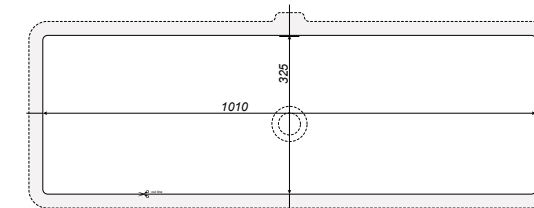

Figure 2.
2. Test fit and align basin under bench top cut-out and trace the outside profile with a pencil. Use this outline to determine the appropriate location of the basin mounting clips and install clips at these locations. See figure 2. A set of four mounting clips has been provided with the basin.